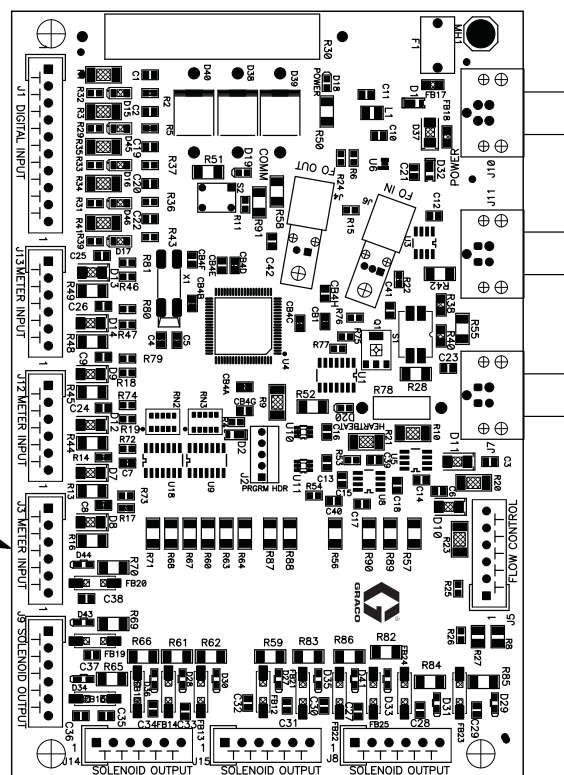
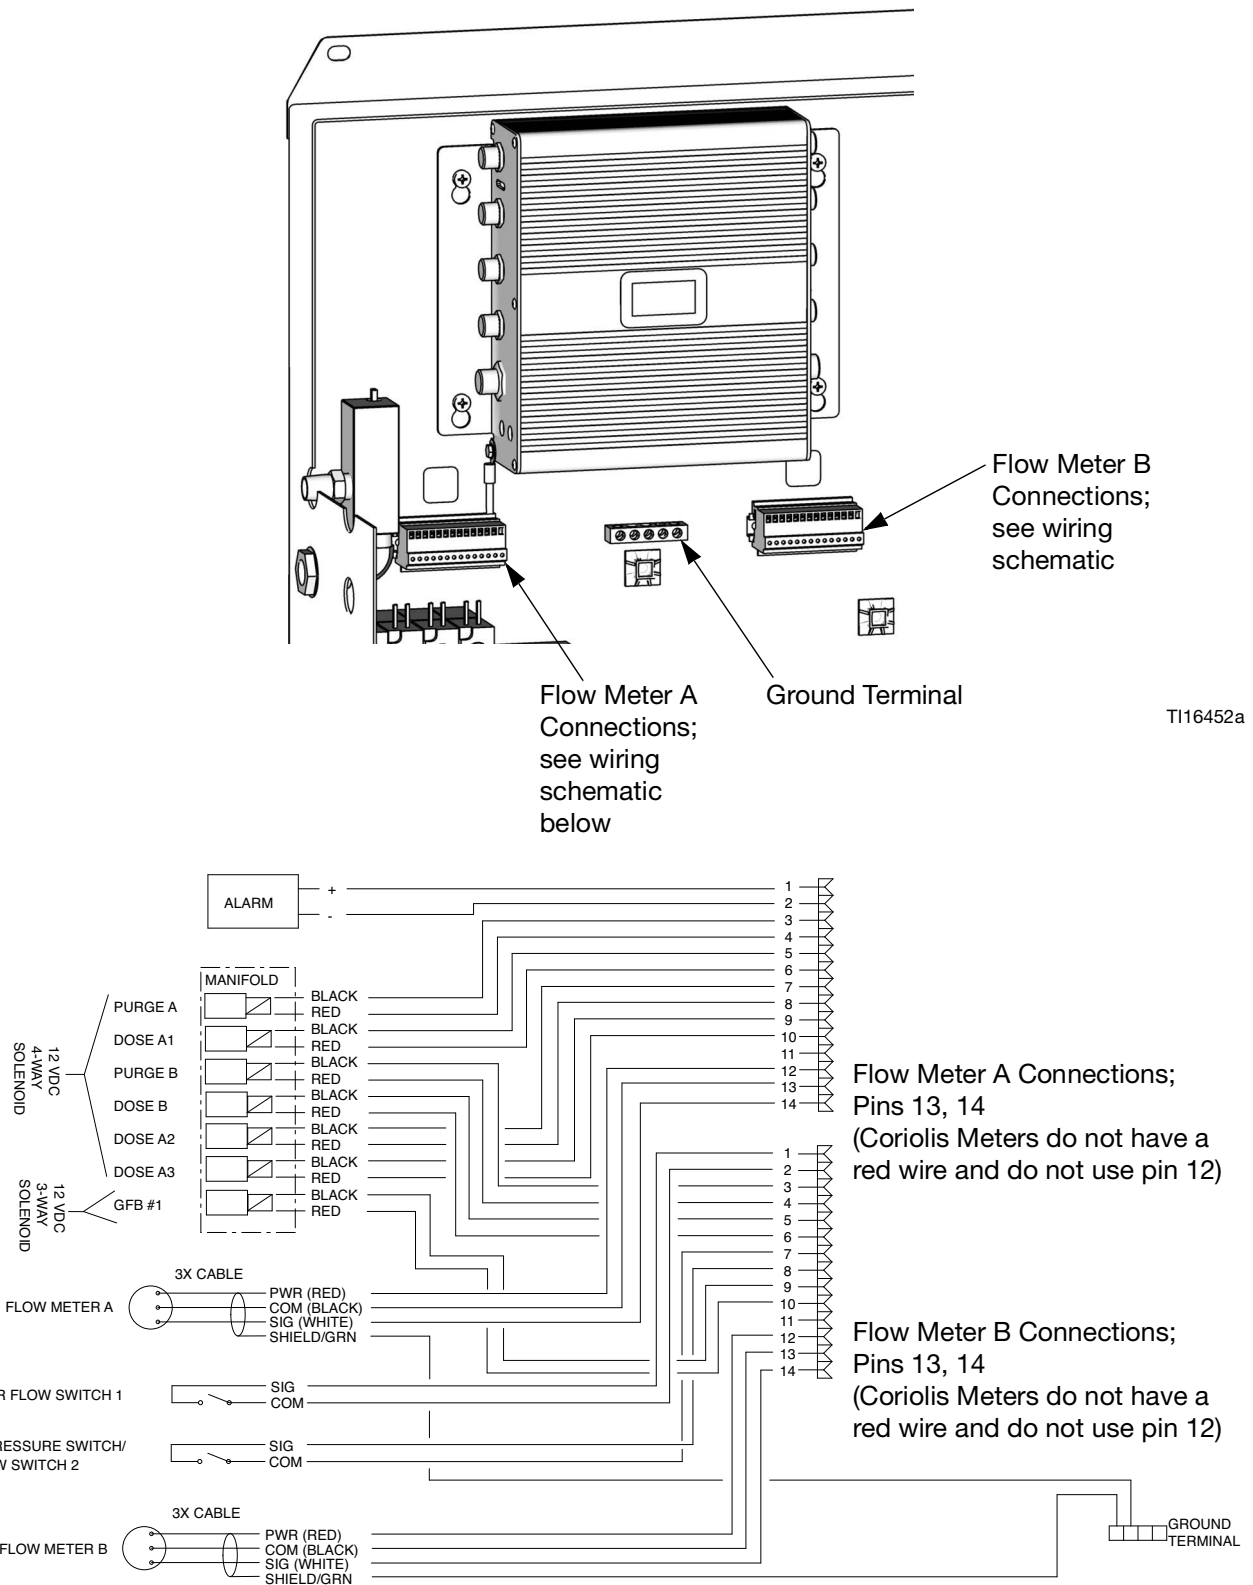

FIG. 7. Signal Cable Connections (ProMix 2KS/3KS and ProControl 1KS)
Fig. 8. Power and Signal Cable Connections (ProMix 2KE)
Ground the flow meter sensor by connecting the signal cable ground wire as shown in FIG. 6 and FIG. 7 on pages 10 and 11, respectively.
2. See FIG. 7 for ProMix 2KS/3KS and ProControl 1KS, and FIG. 8 on page 12 for ProMix 2KE.
- ProMix 2KS/3KS and ProControl 1KS:* Connect the signal cable's green ground wire to the ground terminal bar (GT). Connect the white and black wires to J3 on the fluid panel control board (CB). Use pins 2-3 for Flow Meter A and pins 5-6 for Flow Meter B. See TABLE 1 on page 13 for signal cable connections for additional meters.
- ProMix 2KE:* See FIG. 8 on page 12. Connect the signal cable's green ground wire to the ground terminal bar (GT). For Flow Meter A, connect the black wire to pin 13 and the white wire to pin 14 on the left terminal strip, as shown. Connect Flow Meter B to the right terminal strip, pins 13 and 14. Coriolis meters do not have a red wire and do not use pin 12.